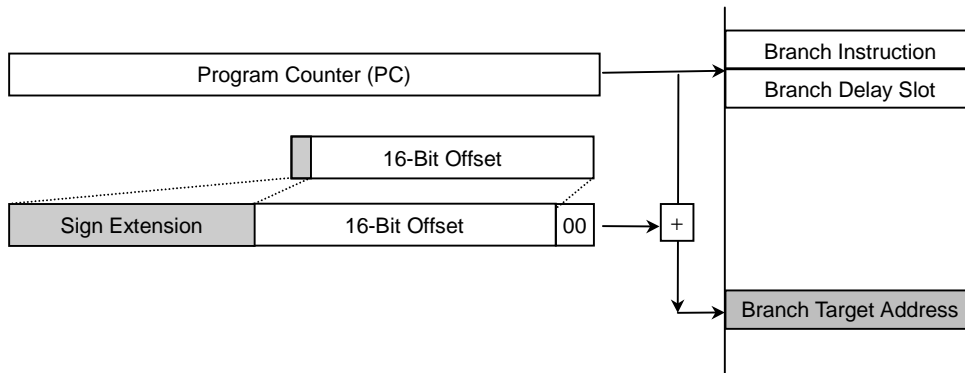

Figure 3-8 PC-Relative with Offset Addressing (32-Bit ISA Mode)
contents of the program counter (PC). Figure 3-8 shows how the branch target address is generated using PC-relative with offset addressing. As shown in Figure 3-8, the target address for a branch is computed from the address of the instruction immediately following the branch instruction, i.e., the address of the branch delay slot.